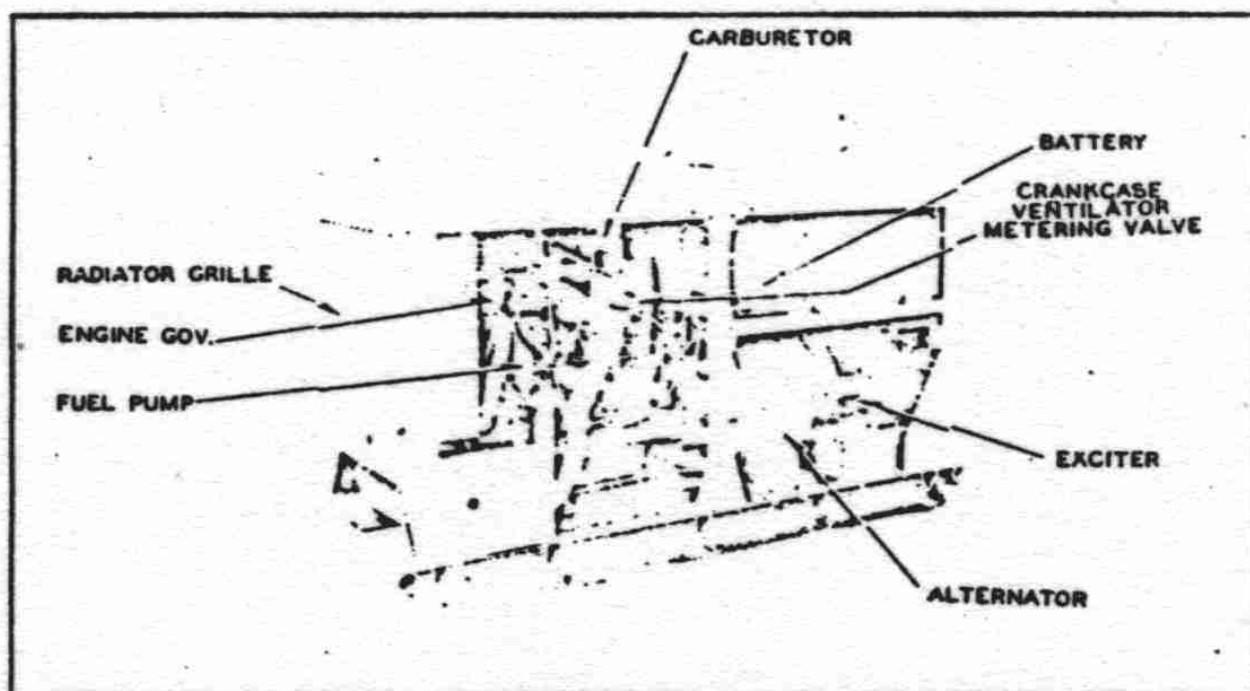

FIG. 1 POWER UNIT JWC4-10S-3 (RIGHT SIDE)
a. Description.—Power Unit JWC4-10S-3, Figs. 1 and 2, is a complete electric generating plant. It consists of an engine and a generator with the necessary accessories and controls, all mounted in a metal housing with a skid base.